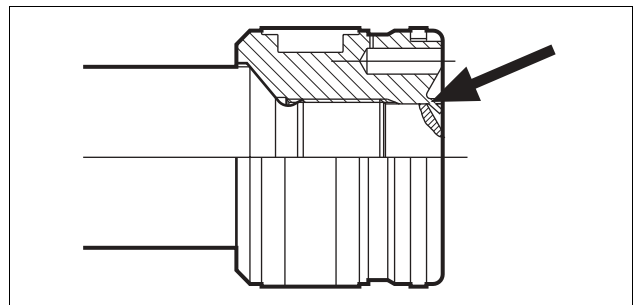

Fig. 33 Lock the piston
- 26. Lock the piston. *See Fig. 33.*